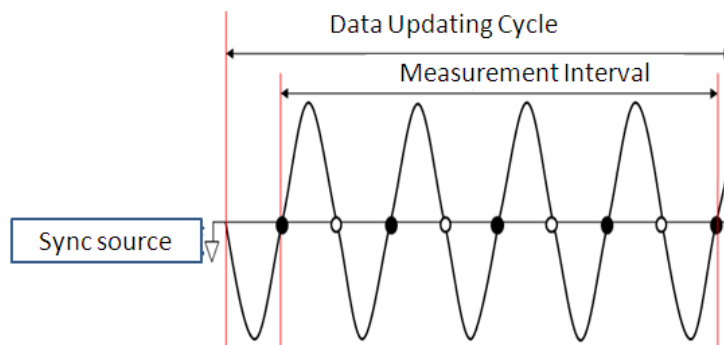

Figure 4.1: Measurement Timing
- Either positive, or negative going transitions of the synchronization source determine the measurement timing. If the zero crossings do not occur within the set update interval, the entire interval is used for calculating the various measurements. See Figure 4.1.